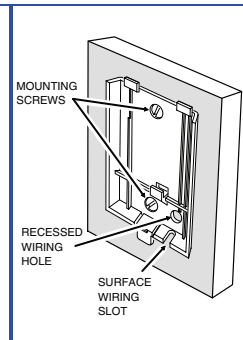

Figure 4. Transmitter
STEP 1: Select a location for the transmitter and drive screws through the two countersunk holes of the back cover to mount the cover (see Figure 4).
STEP 2: For recessed switches with hidden wiring, fish the sensor wires through the wire access hole on the back cover. With surface wiring, route the wire leads through the wire slot on the back cover (see Figure 4).